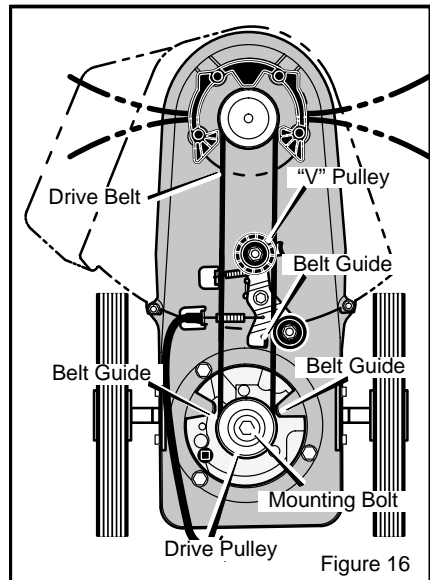

Figure 16
4. Raise the front of the **trimmer housing** and remove the **drive belt**. On some models, it is necessary to loosen the **mounting bolt** for the **drive pulley** to remove the drive belt (see Figure 16). Do not bend the belt guides.
6. Check the routing of the **drive belt**. Make sure the **drive belt** is inside of all **belt guides** shown in Figure 16.